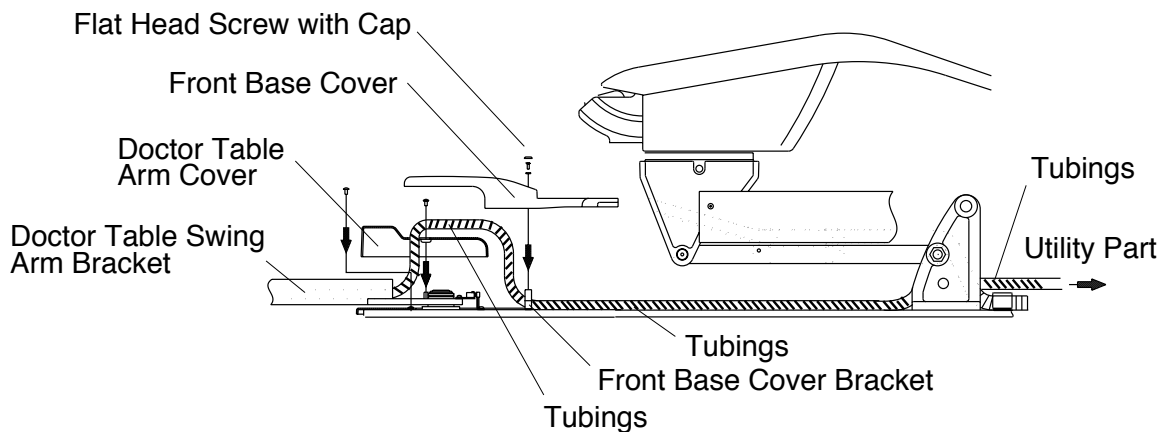

Fig.3-5-15 Fixing Doctor Table Arm Cover and Tubings
- (18) Run the tubings through doctor table arm cover and front base cover bracket. (Fig.3-5-15)
Fix the doctor table arm cover with two truss screws (M5-10). (Fig.3-5-15)
Fix the front base cover with flat head screw with cap. (M4-8). (Fig.3-5-15)